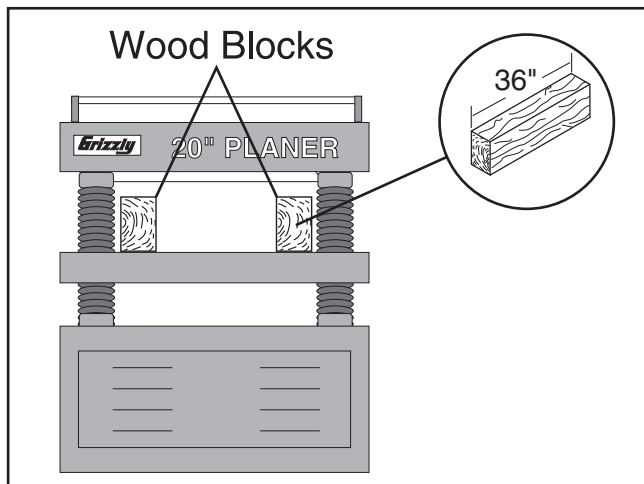

Figure 36. Wood blocks on table.
4. Place one wood block along the left side of the table, and place the other wood block along the right side of the table, as illustrated in **Figure 36**.